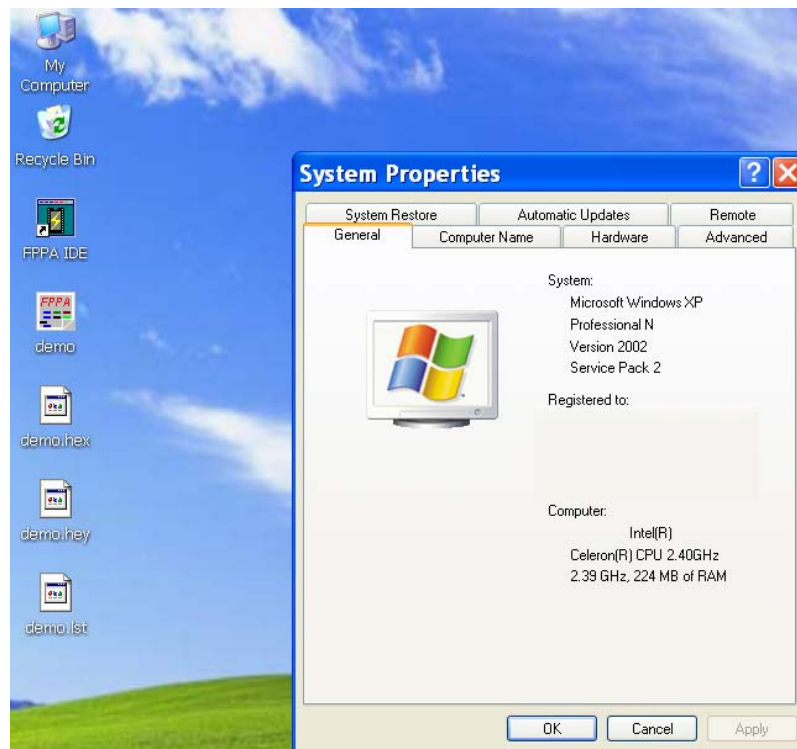

Fig.3-6 : System Properties of My Computer
Step 1 : Click **【My Computer】** by using mouse right button , then select **【Properties】** , the window of System Properties will be shown as Fig.3-6 ◦